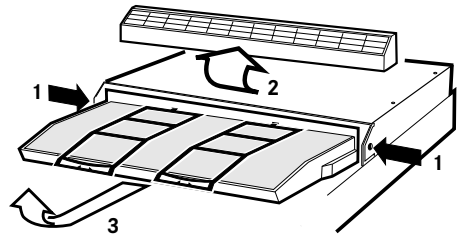

Fig. 9
Push in the snap retainers on both sides of the hood (1) and lift off the front (2). Then pull out and lift off the filter retainer (3), Fig. 9.